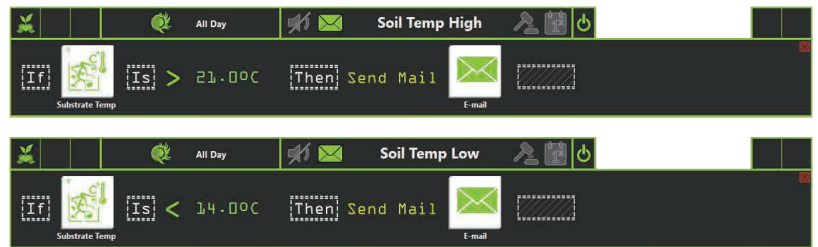

Figure 6 - Substrate Temperature High/Low Alarms Examples
- ▶ Figure 6 illustrates a set of alarms programmed to send a warning e-mail when the substrate temperature drops below 14 degrees Celsius (°C), or gets higher than 21°C.